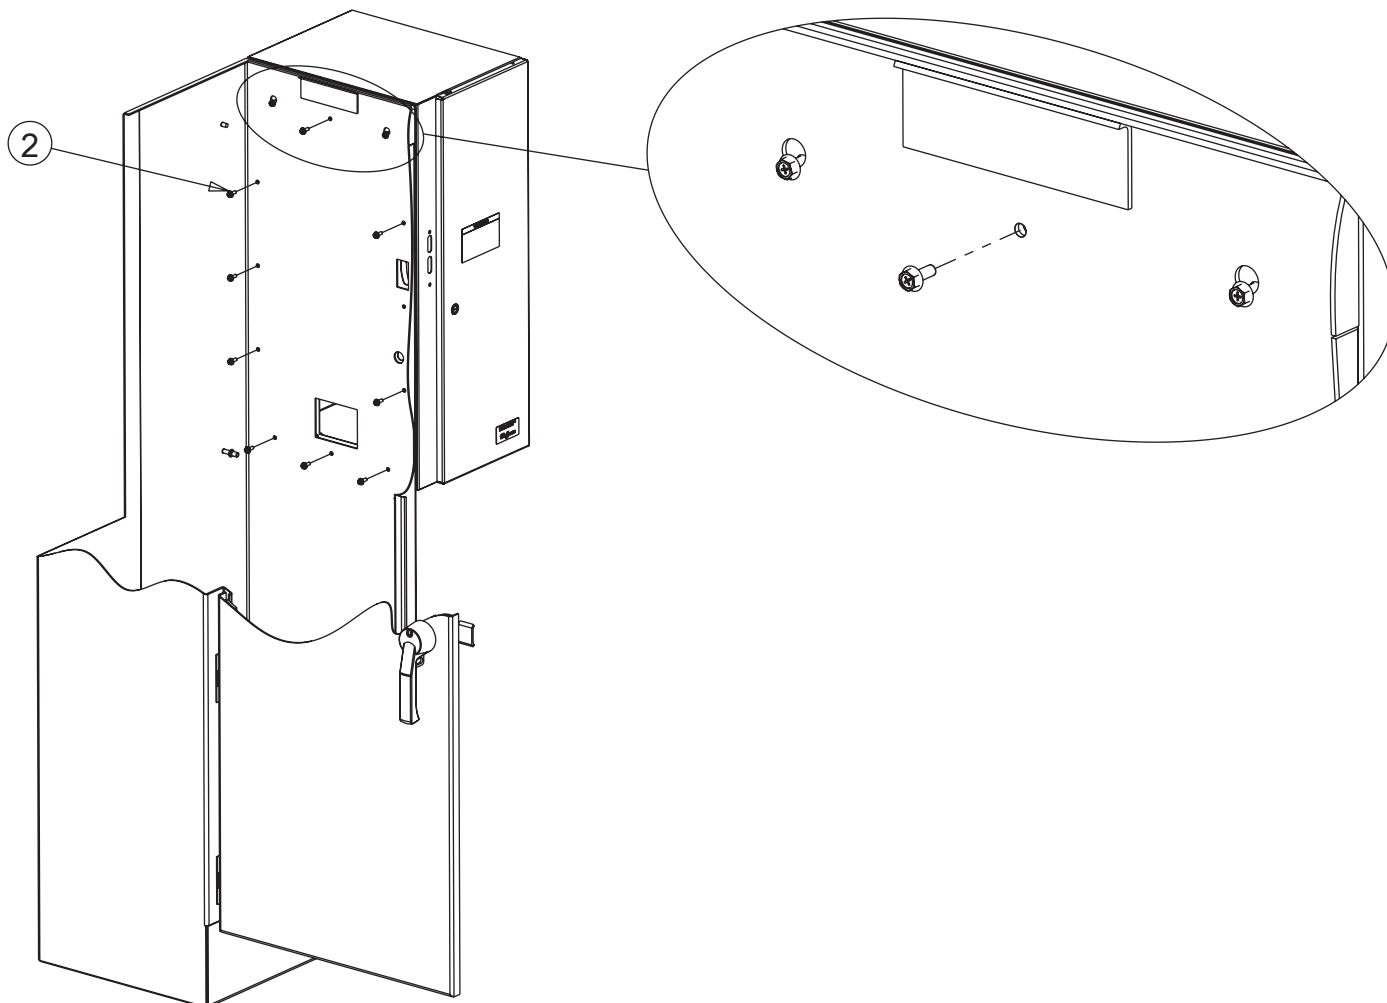

Figure 1B
- Referring to Figure 1B, hang the SEQUESTER enclosure on the side of the control enclosure by inserting the two bolts into the slotted holes in the side of the control enclosure.